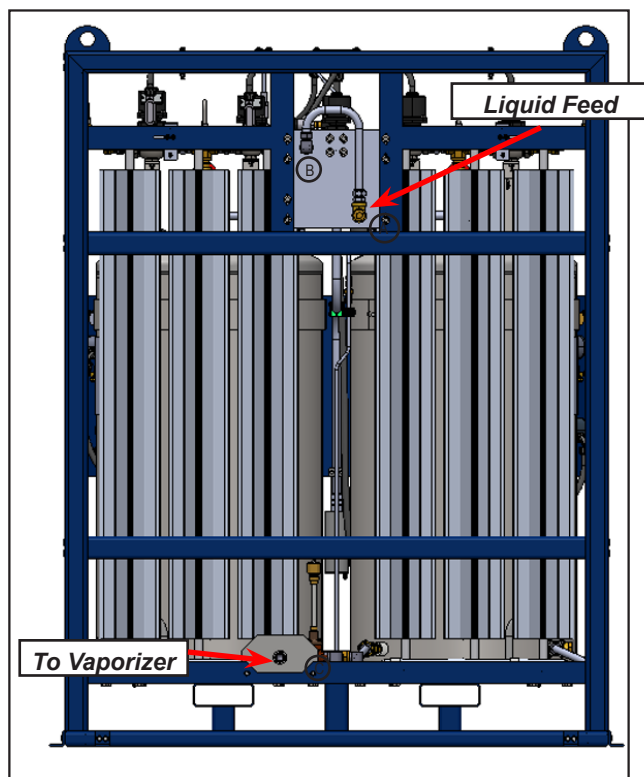

Figure 1
3. Pipe Trifecta 30K liquid fill line to bulk tank labeled "From Bulk Tank." For maximum efficiency, this line should be insulated and no smaller than 1. Part A is pre-drilled for anchor bolts as showing the second image below (See Fig. 1)
4. Pipe Trifecta 30K gas use line to external vaporizer labeled "To Vaporizer." To minimize ice build-up on pipe, this line should be insulated (See Fig. 1).
The Trifecta Pro 30K skid requires a liquid line piped from the bulk storage tank. This line will serve two functions. First, to allow the high pressure gas to return to the liquid side of the bulk tank (reduce losses), second, to allow the transfer of liquid from the bulk tank to the Trifecta. By removing the tube connection between A and B — shown in Fig. 1 on next page — the high-pressure vent gas can be separately piped to the gas phase of the bulk tank, or totally vented to atmosphere. Venting the Trifecta to the gas phase is often useful when the customer has a gas requirement out of the same tank.
The backside (PB Side) of the Pro Series skid has two/three connection points (See Fig. 1).